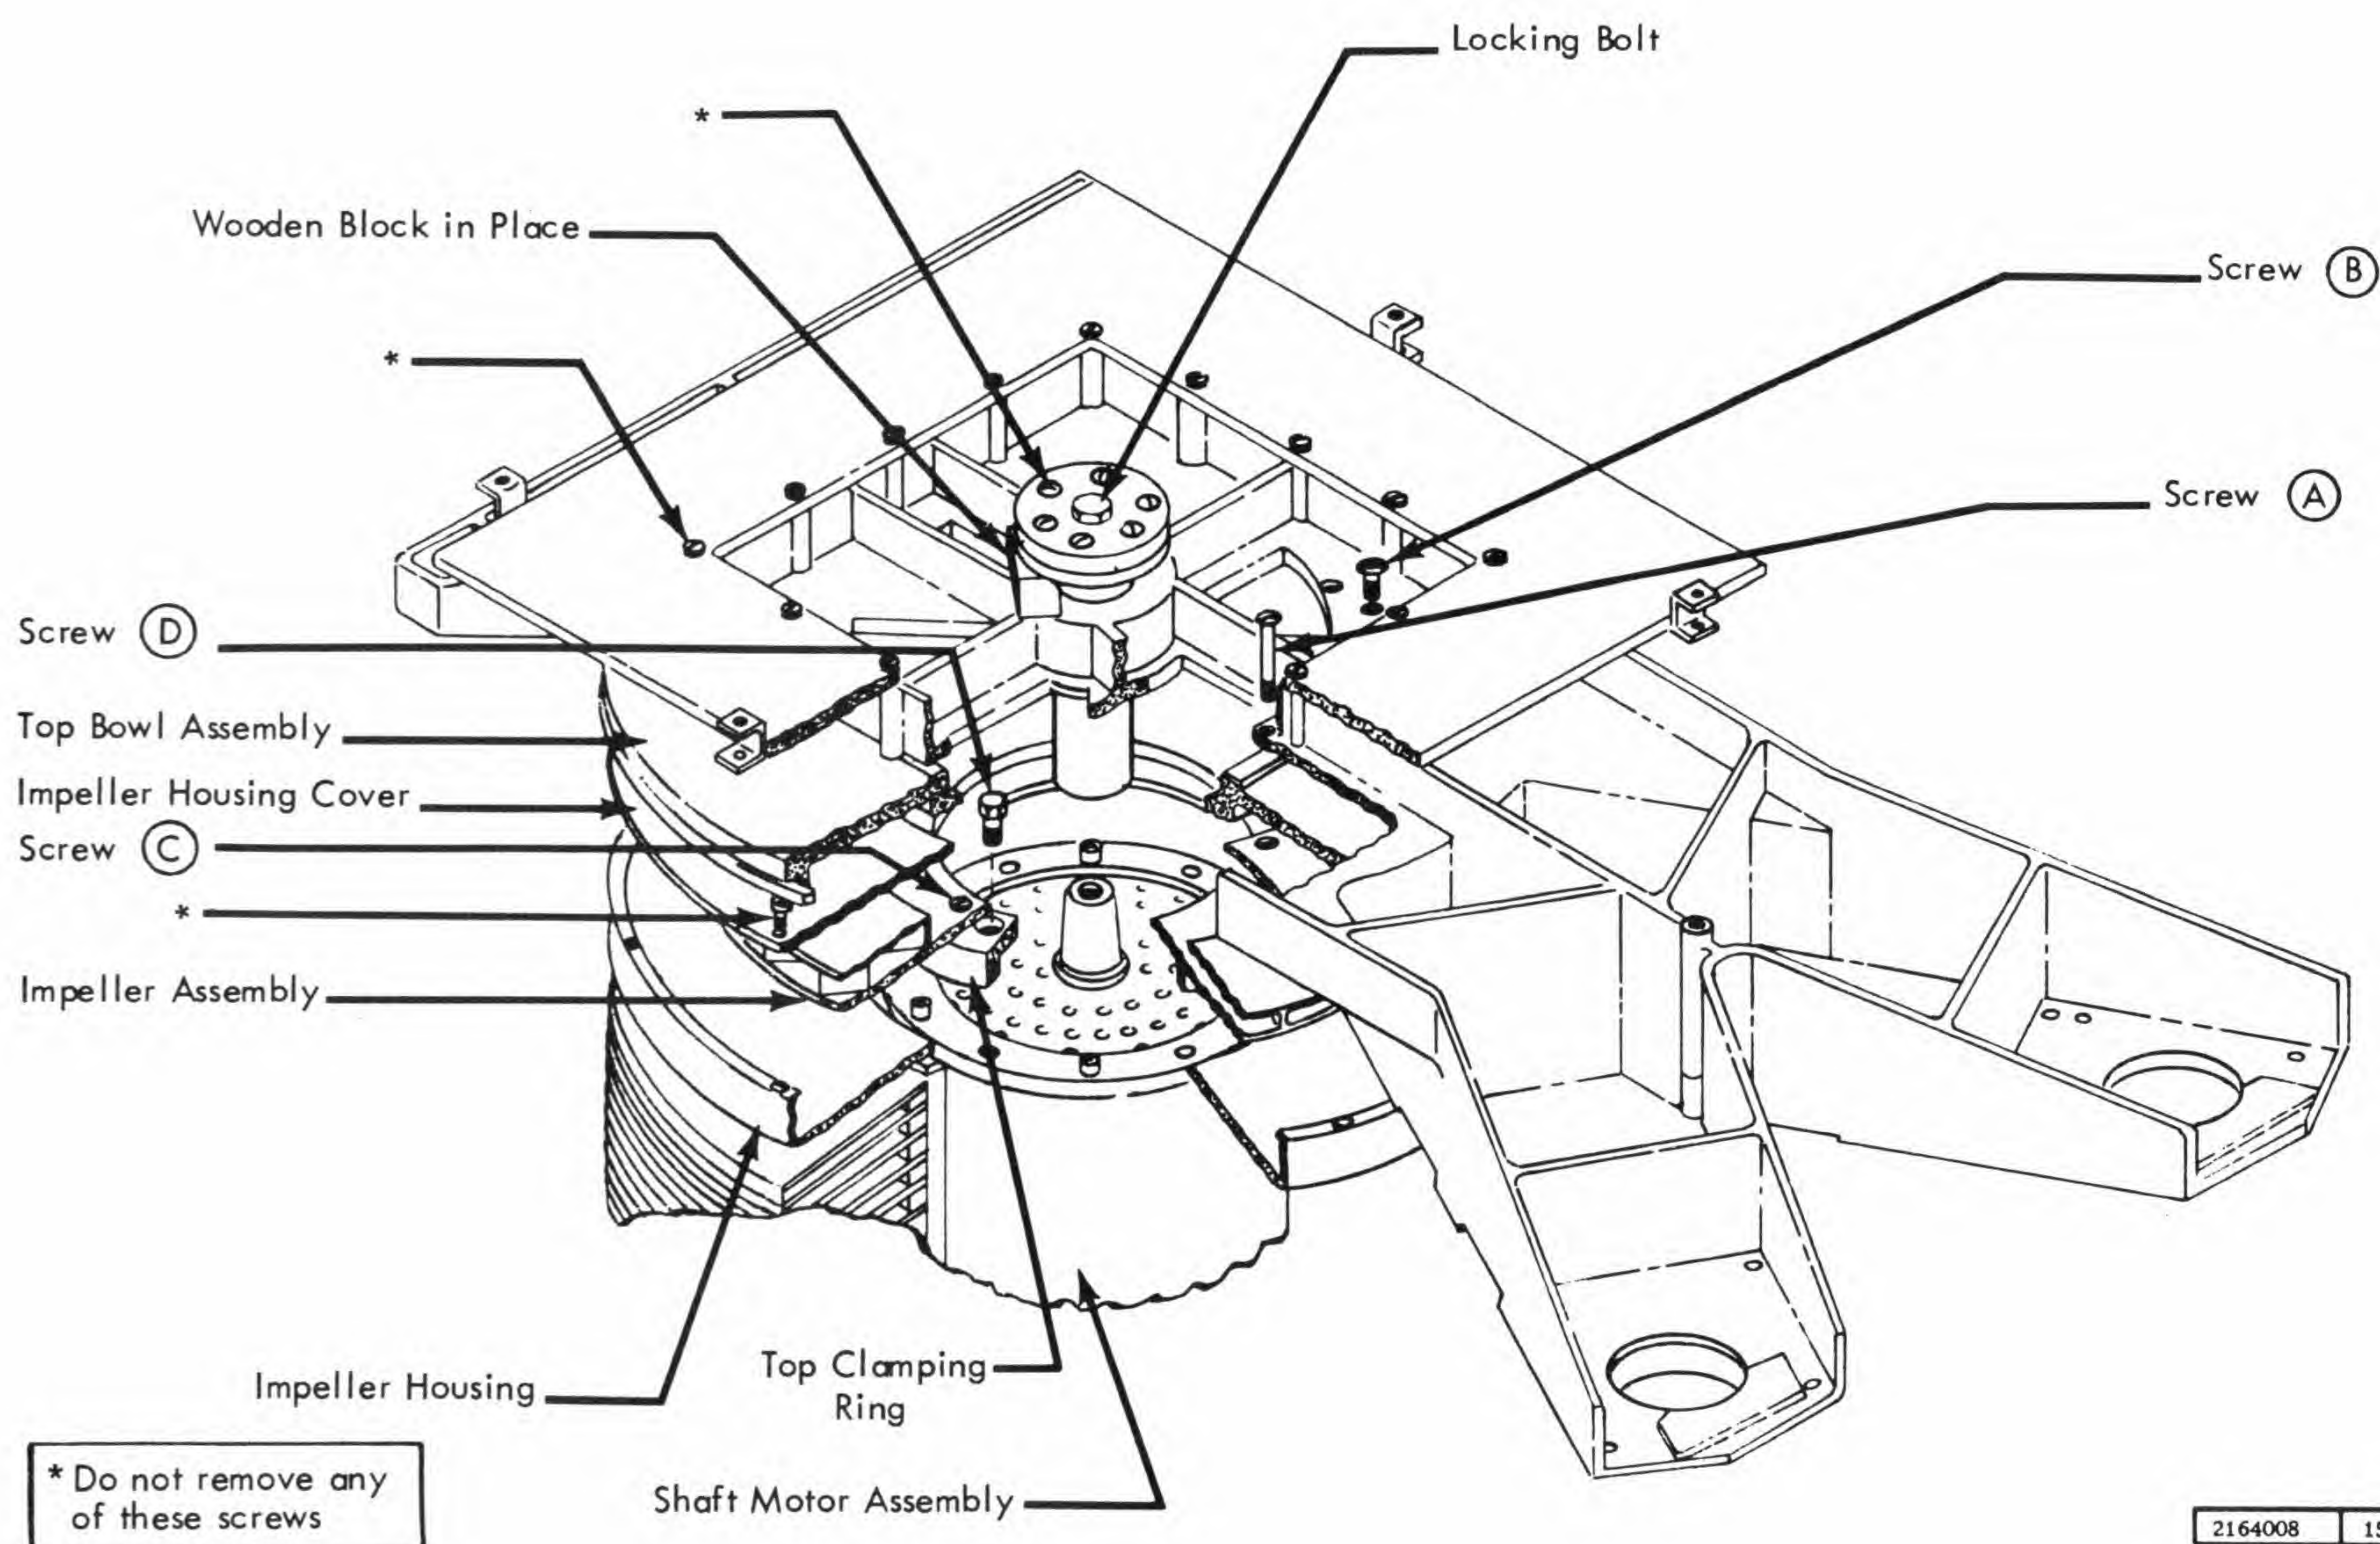

Figure 3-10 Disk Array Disassembly
13. Remove the six screws (Item A, Figure 3-10) which fasten the impeller housing assembly to the top casting.
14. Remove four screws (Item B, Figure 3-10) which fasten top bowl assembly to top casting. Remove top bowl through front of the machine (Figure 3-11).
15. Remove four screws (Item C, Figure 3-10) which fasten impeller to top clamping ring. The impeller housing cover, impeller housing, and impeller can be removed through the front of the machine as an assembly (Figure 3-11).
16. Remove the six disk clamping ring screws (Item D, Figure 3-10) and the clamping ring.